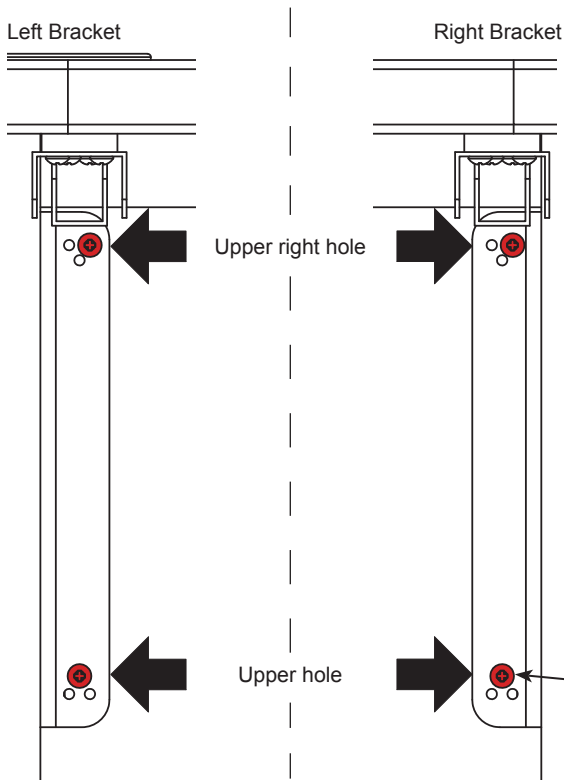
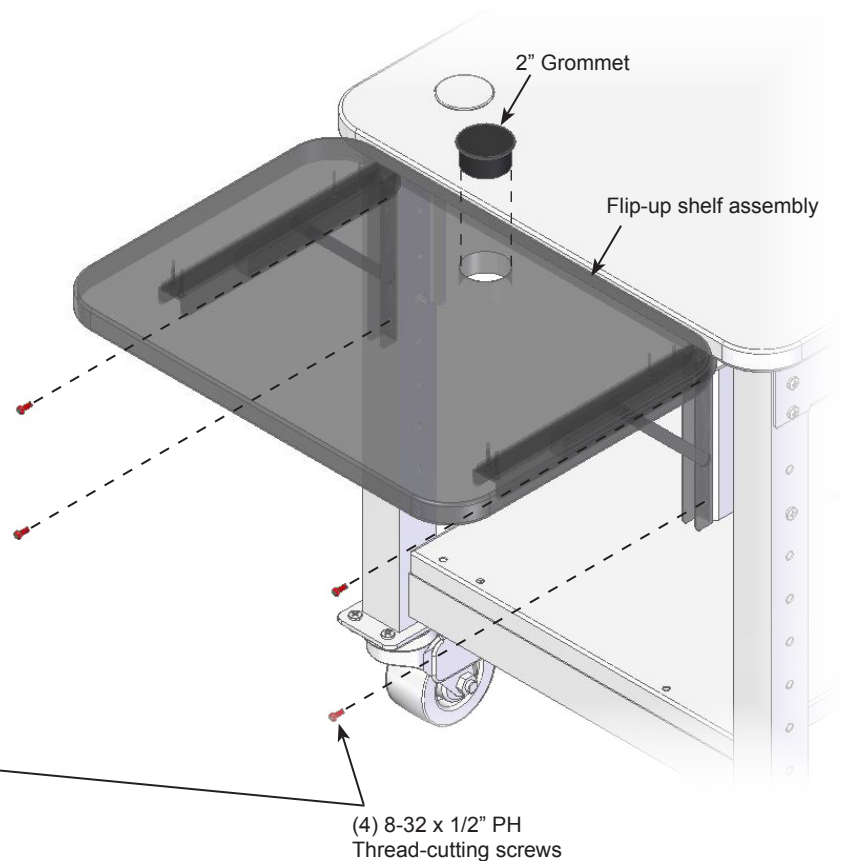

Figure 2.1
Figure 2.2
3. Attach the shelf with (4) 8-32 x 1/2" PH thread-cutting screws using the holes shown. **Figure 2.1** and **Figure 2.2**.